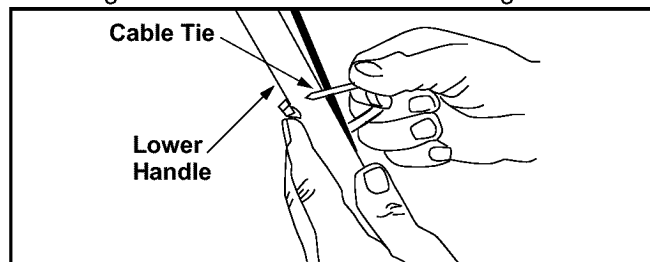

Figure 4
- Fasten the cables to the lower handle with the cable tie found on the lower handle. Pull the cable tie tight and trim off the excess. See Figure 4.